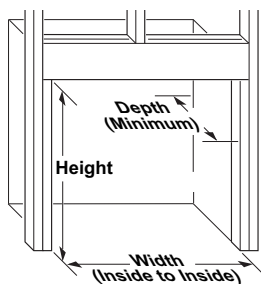
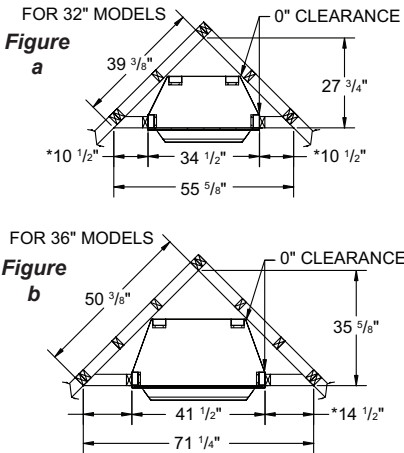

Figure 13 - Rough Opening for Installing in Wall
Figure 14 - Rough Opening for Installing in Corner
1. Frame in rough opening. Use dimensions shown in Figure 13 for the rough opening. If installing in a corner, use dimensions shown in Figure 14, page 12, Figure 13, for the rough opening.